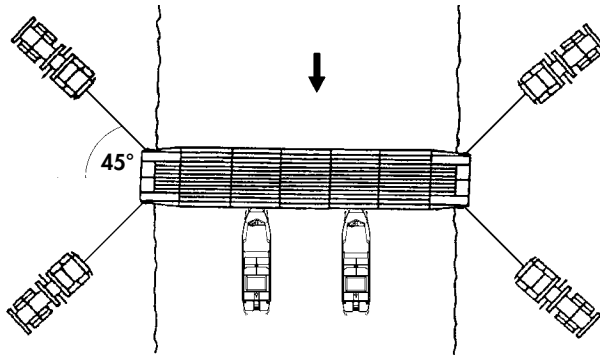
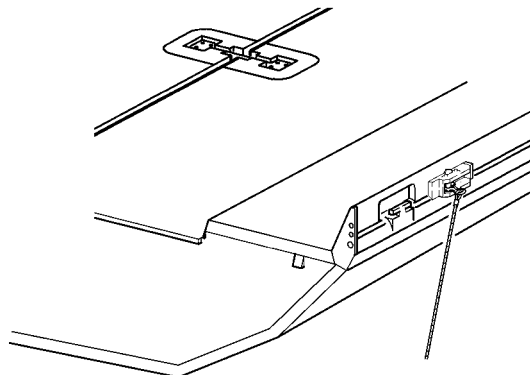

Figure 1. Typical End Span Anchorage.
Figure 2. Ramp Bay Load Receiving Pin.
- (2) In addition to placement of BEBs along the downstream side of the bridge, the ramp bays must be secured at both riverbanks during bridge assembly. End span anchorage is necessary to prevent the bridge from creeping away from the shore as a result of the impact of vehicular traffic driving on the bridge. If four transporters are available, position each transporter at approximately a 45-degree angle to the bridge centerline at both ends of the bridge. (Refer to figure 1). Using the front winch cable to the first load-receiving pin on the side of the ramp bay. (Refer to figure 2). Pay in cable to take up slack, set parking brake, and chock wheels on each transporter. (Refer to figure 1).